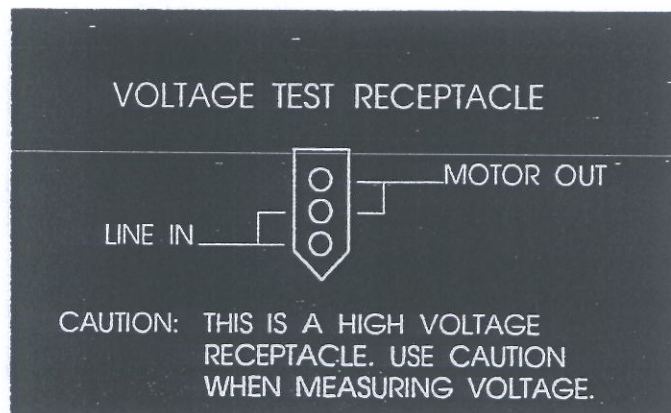

Figure 14
- (1) Remove the front dress panel as described on page 29.
- (2) Locate the voltage test points identified by Figure 14 on the top of the electronics module.
- (3) Using a voltmeter and probes, measure the desired voltage by connecting the voltmeter probes to the appropriate points.
- (4) Replace the front dress panel.